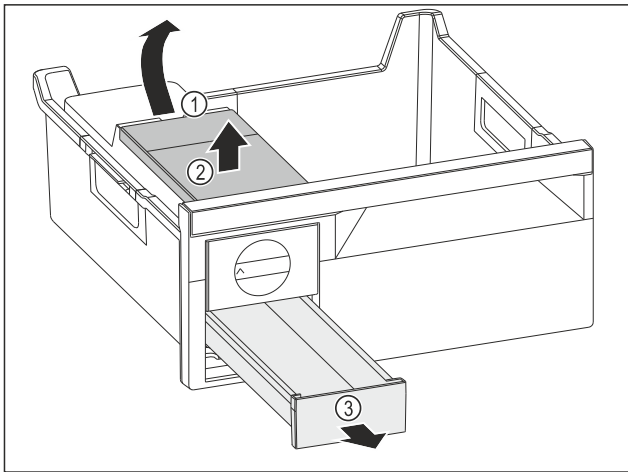

Fig. 123
- ▶ Removing the water tank: Lift the water tank at the recess Fig. 123 (1).
- ▶ Remove the water tank Fig. 123 (2) upwards.
- ▶ Remove the ice cube tray Fig. 123 (3) from the front.